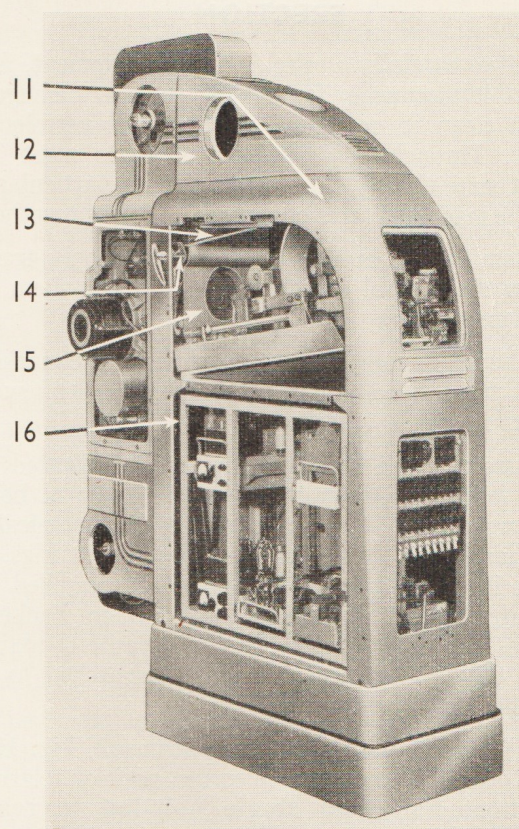
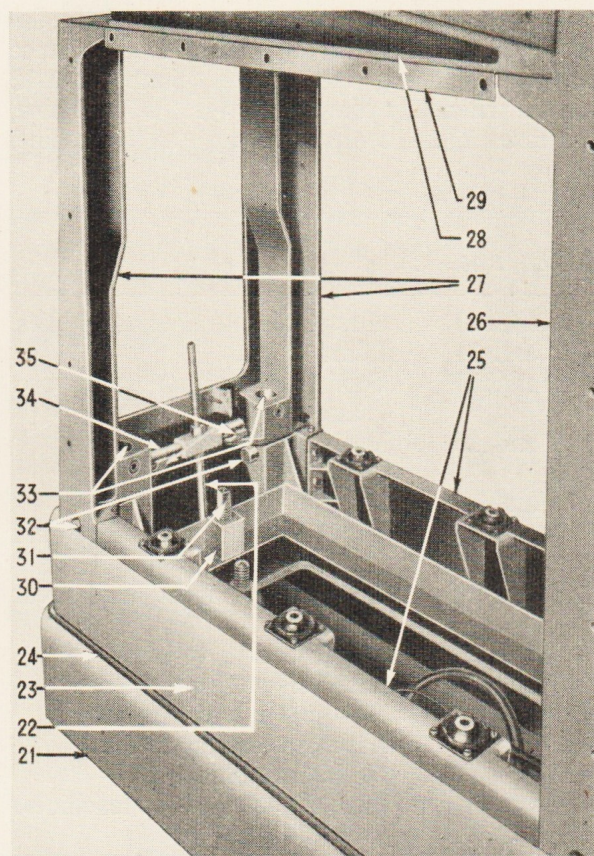

Fig. 9. Constructional Details.
Fig. 10. Frame Assembly Details.
Assemble the stands in the order indicated in the following paragraphs. The assembly of both 45 watt and 90 watt equipments is basically similar. The Part Nos. quoted refer to Figs. 9 and 10. The parts of the frame are dowelled to ensure correct alignment, and where packing shims are required, between the lantern wedge and the body-casting, they are dispatched fixed in their final position.
(1) Insert plinth bolts in plinth (21, Fig. 10), and place Plinth on floor in correct position relative to front wall **with single bolt-lug to rear**. Put the Plinth Blocks, if any, on the bolts, and insert anchor bolt (22, Fig. 10) in rear underside of Base (23, Fig. 10). Put the Base on the Plinth Blocks and, after inserting rubber fillet (24, Fig. 10) between Base and Plinth, tighten up Plinth bolts.
(2) Build up the main frame as a separate assembly. Bolt the Top Main Frame (11, Fig. 9) to the Rear Main Frame (27, Fig. 10) and to the Front Main Frame (26, Fig. 10) ; at each stage, the fixing bolts should be securely tightened.
Now fit the two Distance Pieces (25, Fig. 10). The resilient mountings marked 45 lb. should be to the rear. Take great care not to spring the main frame assembly while fitting the Distance Pieces ; tighten up all fixing screws.
Remove the Top Main Frame (11, Fig. 9) and fit the Lantern Wedge and Tray (28 and 29, Fig. 10), **using shims if provided** at points to which they are fixed for dispatch. **Do not tighten fixing bolts**. Re-fit Top Main Cover and **tighten its fixing bolts**, then tighten lantern-support bolts.
If the angle of projection is less than $7\frac{1}{2}^{\circ}$ downwards, insert the Rake-adjusting Screws (33, Fig. 10) in the Front Main Frame ; if the angle is $7\frac{1}{2}^{\circ}$ or more downwards, fit them in the Rear Main Frame.
Insert Jacking Frame (30, Fig. 10), with the **single jacking-point to the rear**, underneath main frame assembly. Fit the jacking-frame pivot pins (32, Fig. 10) in the frame, **at the opposite end to that containing the rake-adjusting screws**.
For convenience of handling, tie the free end of the jacking-frame to the rake-adjusting screws, then lift the assembly into the Base, guiding the anchor bolt between the rear frame and the jacking-frame. Place Anchor Bar (34, Fig. 10) on anchor bolt and in cradle (35, Fig. 10) and tighten locknut finger-tight.
(6) Fit dowsers assembly by its two fixing bolts to the front of the lantern. Mount the monitor housing (12, Fig. 9) on the top main frame, and fit the top spoolbox, threading the four-core cable and plug from the door-interlock switch and the inspection lamp through the clearance hole in the top of the mechanism box.
(7) Fit mirror-shield pivot-arm to upper left-hand side of top main frame. Connect mirror-shield operating rod (13, Fig. 9) and front shutter operating rod to the rocker arm (14, Fig. 9). Adjust the length of the shutter rod to give complete shut-off.
Fix the lower heat shield (15, Fig. 9) to the lantern, and fit the upper heat shield which is secured by screws and distance pieces to top main frame, and is screwed at the bottom to the lower heat shield.
(8) Undo the back-of-panel locknuts on the bolts fixing the fuse panel to the control cubicle framework. This will allow the fuse panel to be pushed back out of the way. Remove the fuse-carriers, and lift the cubicle framework on to the resilient mountings on the distance pieces (25, Fig. 10). Do not tighten the fixing bolts at this stage; the control cubicle may have to be shifted slightly for the control panel to line up with the aperture in the side plate. Fix the fuse panel in its original position.
(9) Connect up the wiring as described in the section "ELECTRICAL CONNECTIONS" (page 22).
(10) The various tray-units are to be fitted to the drawer strips in their respective control cubicles. The Exciter Lamp Supply Unit and the Stand-by Fader Amplifier are fitted in "A" Reproducer Unit Stand; all other tray-units are housed in "B" stand. The Stand-by Power Amplifier and Amplifier Supply Rectifier Units are fitted immediately below the main units. Each tray is connected by means of a "Painton" plug and socket.